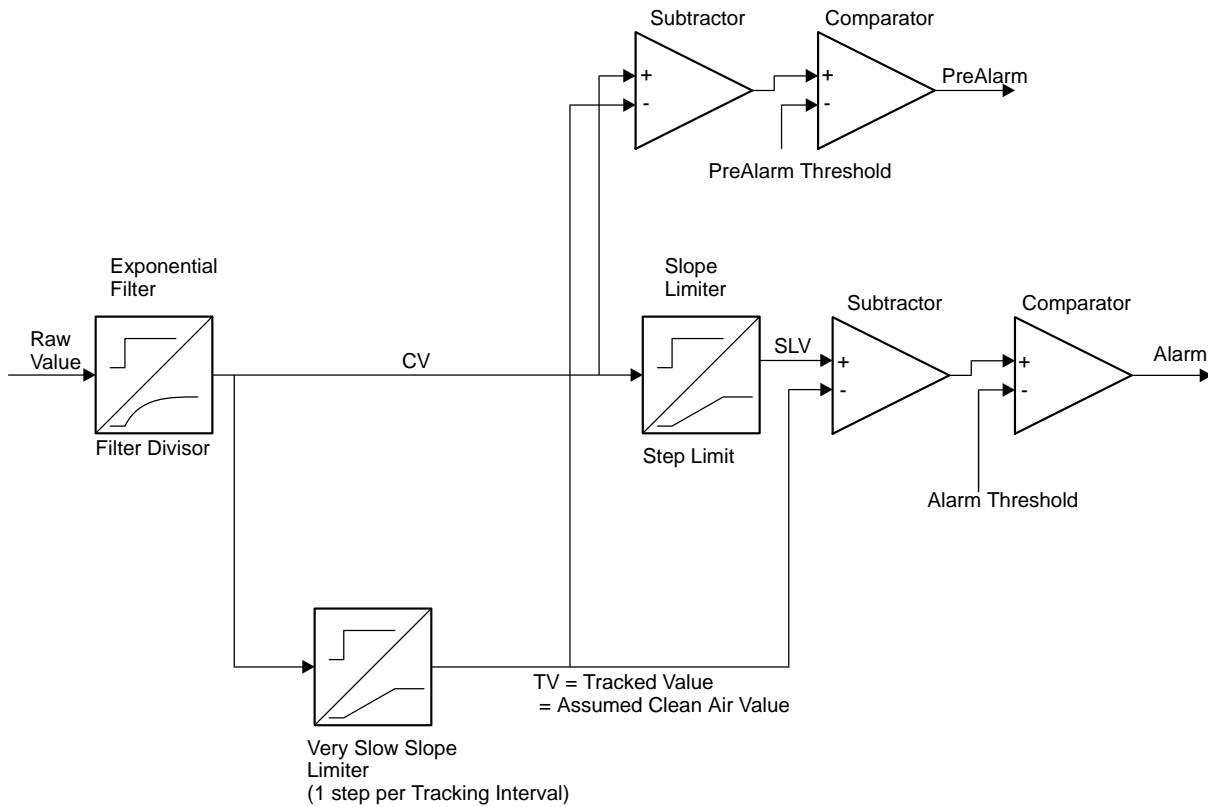

Figure 9.6 Ionisation Detector Processing
The processing is shown in Figure 9.6. The tracked value is initialised by setting it to a high value (100) when the MXP or detector powers up, and allowing the tracked value to increment / decrement by 1 for each of the first 4 minutes.